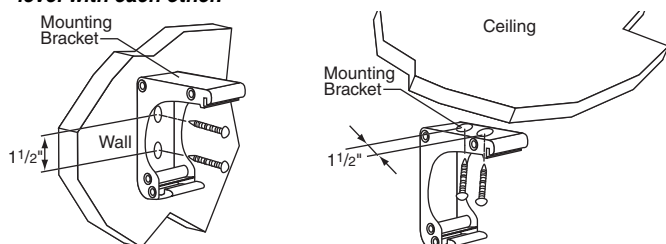

Figure 1
- ① Attach Mounting Brackets to wall or ceiling (see Fig. 1). The installer should furnish screws, toggle bolts, molly bolts, nylon or lead anchors as required by the mounting surface. Installer also needs to ensure the mounting surface is reinforced sufficiently to support the screen. **Brackets must be level with each other.**